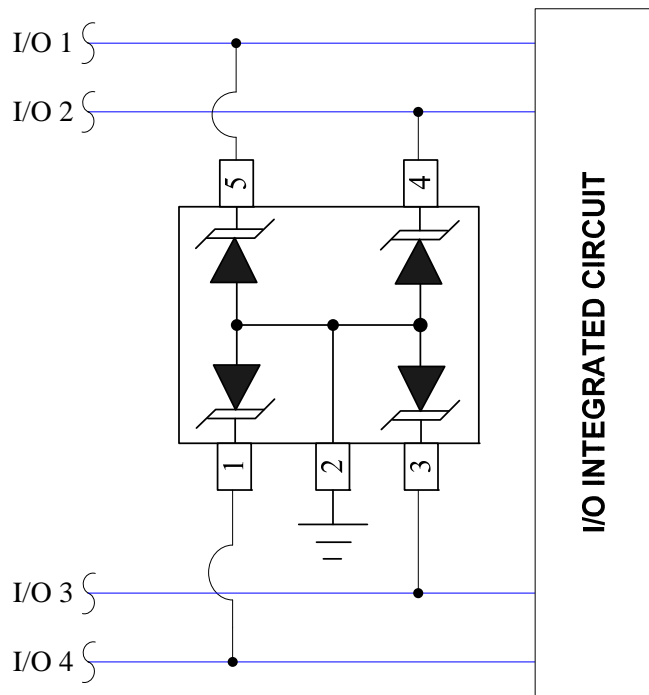

Figure 7 Unidirectional Configuration Common-Mode I/O Port Protections
The WSxxMF Series provides up to four (4) lines of protection in a common-mode configuration as depicted in Figure 7.